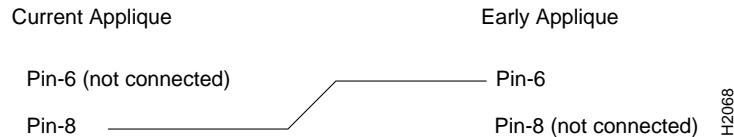

Figure A-8 Cable Change Required When Using Older RS-232 Applique
Very early MCI cards were shipped with an RS-232 DTE applique assembly designed by a third-party vendor. These older appliques, marked *SCO-232*, do not have any LEDs. If you are using this RS-232 DTE applique assembly on the other side of a link, the applique has Carrier Detect (CD) on pin 6, which is contrary to current RS-232 specifications. When using this applique with an RS-232 DCE applique assembly, you must use a cable adapter or breakout box to change the cable as shown in Figure A-8. All other signals on the 25-pin cable should be straight through.